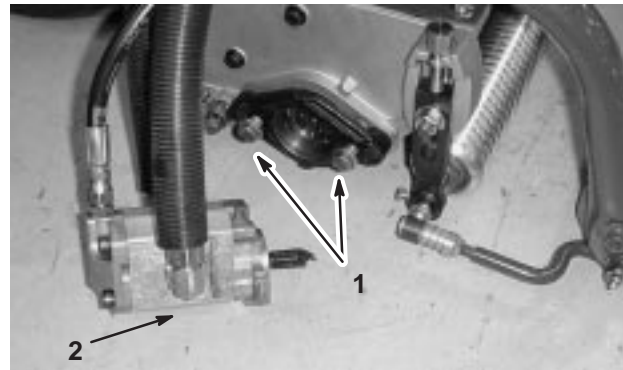

Figure 13
7. Assemble the mounting capscrews for the reel drive motor to each cutting unit. Leave approximately 1/2 in. (13 mm) of threads exposed on each mounting capscrew (Fig. 13).
10. Coat the spline shaft of the motor with clean grease and install the motor by rotating the motor clockwise so that the motor flanges clear the studs. Rotate the motor counterclockwise until the flanges are encircling the studs. Tighten the mounting capscrews (Fig. 13).